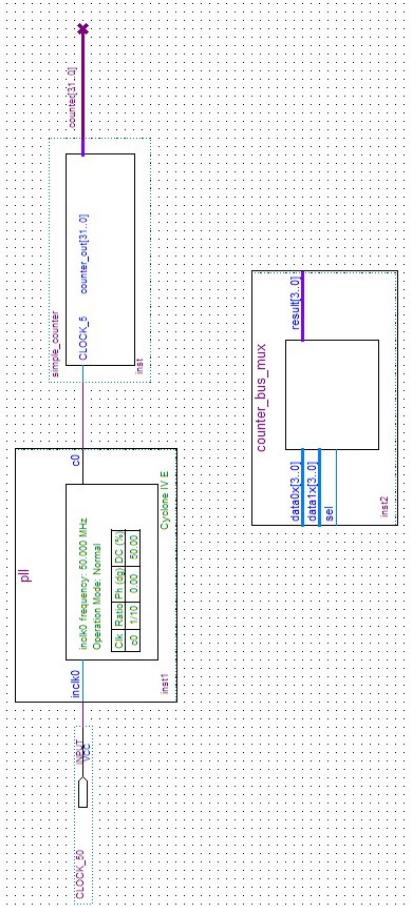

Figure 6-36 Place the lpm_mux symbol
14. Place the counter_bus_mux symbol below the existing symbols on the BDF, as shown in Figure 6-36.